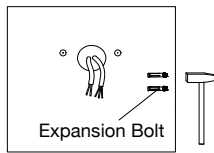

Figure 10
STEP 2: Knock the expansion bolts into the wall. (FIGURE 10)